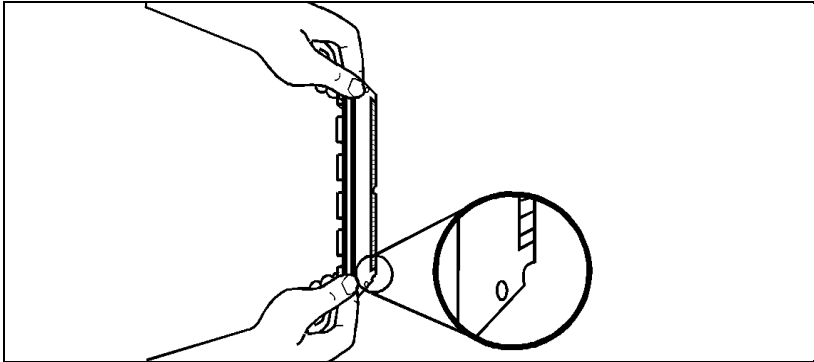

Figure 3-24 Positioning the SIMM board with the notch at the bottom.
- 2 Remove the SIMM board from the antistatic package. Hold the board with your forefingers on the side edges and your thumbs against the back edge. Turn the board so the notch on one end is on the *bottom* and the metal teeth face the slot (see Figure 3-24).